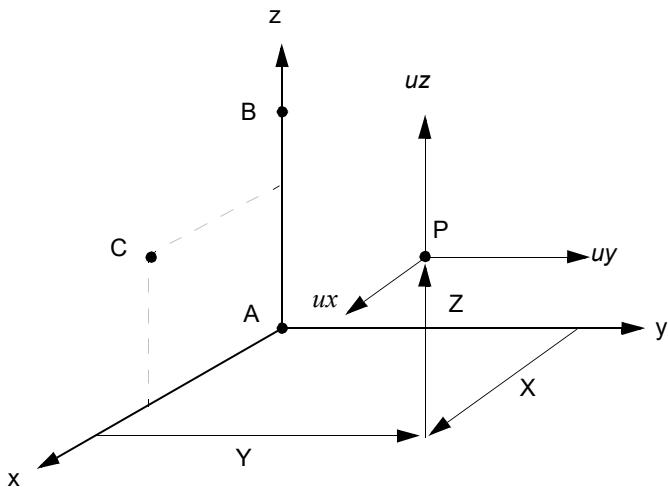

Figure 9-44 CORD2R Definition
6. The location of a grid point (P in the Figure 9-44) in this coordinate system is given by (X, Y, Z).